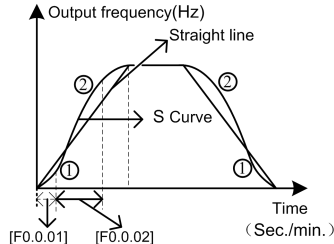

Figure 7-24 Acceleration and deceleration curve
As shown in item ① in Figure 7-24, the acceleration starting/deceleration ending period of S curve is indicated by the percentage of the total acceleration and decoration time.
As shown in item ② in Figure 7-24, the acceleration rising/deceleration decreasing period of S curve is indicated by the percentage of the total acceleration and decoration time.